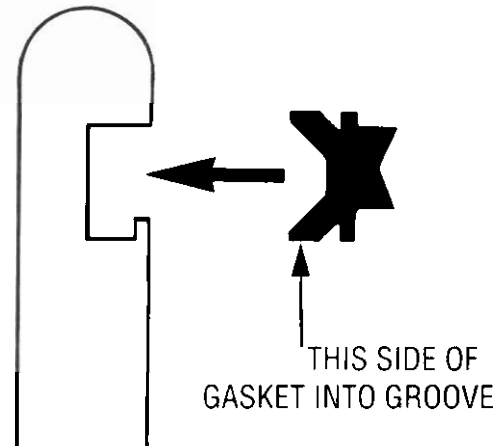

Figure 8-1
3. Replace the new gasket into the groove. The wider side of the gasket goes into the groove, with the narrower side facing out (see Figure 8-1).